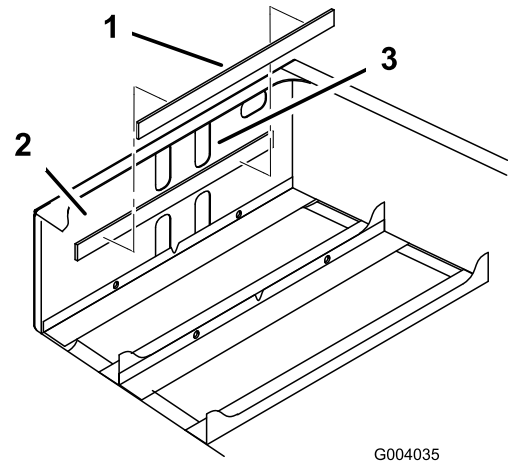

Figure 10
3. Remove the adhesive strip from the back of the battery pad and install it to the front inside face of the rear frame as shown in Figure 10.
Note: The pad should be approximately 1/4 inch below the bottom edge of the upper set of cut-out holes (Figure 10).